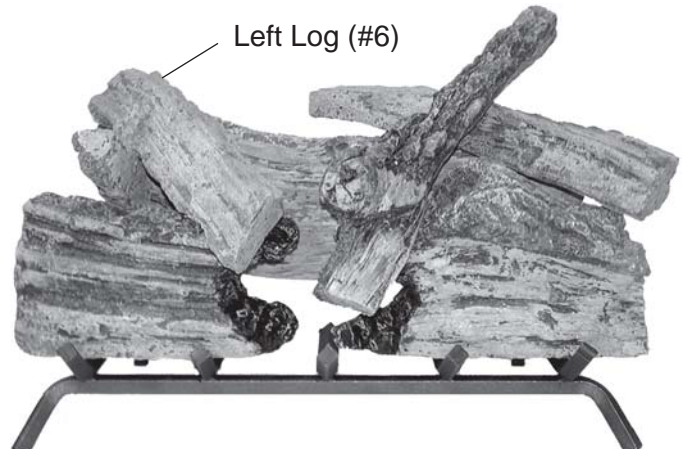

Figure 108 - Installing Left Log (#6)
8. Rest front of Left Log #6 just left of the middle of Log #1A and back end of Log #6 just left of middle of Log #3. See *Figure 108*.